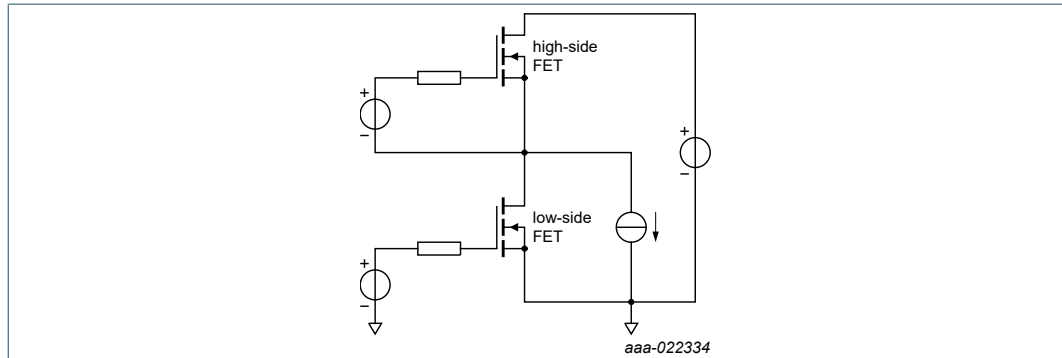

**Fig. 20.** MOSFET Schematic representing the internal capacitances
**A:** It is sometimes referred to as gate bounce. MOSFETs have internal stray capacitances coupling all three terminals and the gate is floating. The capacitors are inherent to the internal structure of a MOSFET, see Fig. 20.